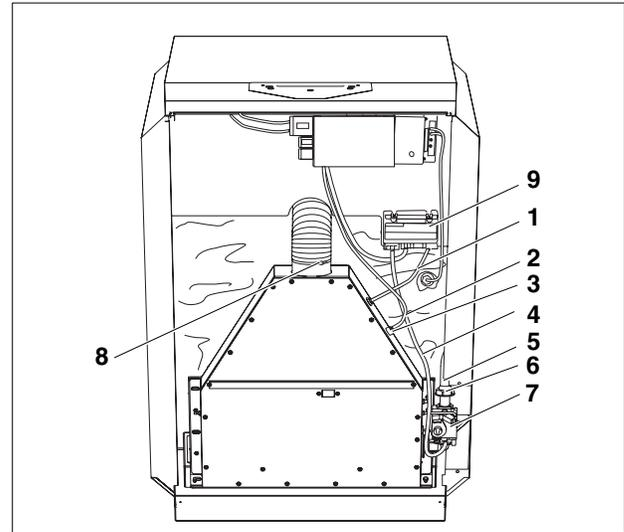

Fig. 32 Front view
4. Disconnect gas pilot line (Fig. 32, **Item. 1**) from gas control (Fig. 32, **Item. 9**)
5. Label the flame roll-out switch wires (Fig. 32, **Item. 2**) and disconnect the wires from the flame roll-out switch (Fig. 32, **Item. 3**).
6. Disconnect gas control valve wires (Fig. 32, **Item. 4**) from the gas control valve (Fig. 32, **Item. 7**).
7. Secure gas supply pipe (Fig. 32, **Item. 5**) with a cable or rope around the gross control bracket.
8. Disconnect union (Fig. 32, **Item. 6**) between the gas valve (Fig. 32, **Item. 7**) and the main gas supply pipe (Fig. 32, **Item. 5**). Place the gasket from the union in a safe position.
9. Loosen air intake hose (Fig. 32, **Item. 8**) and remove from burner tray box